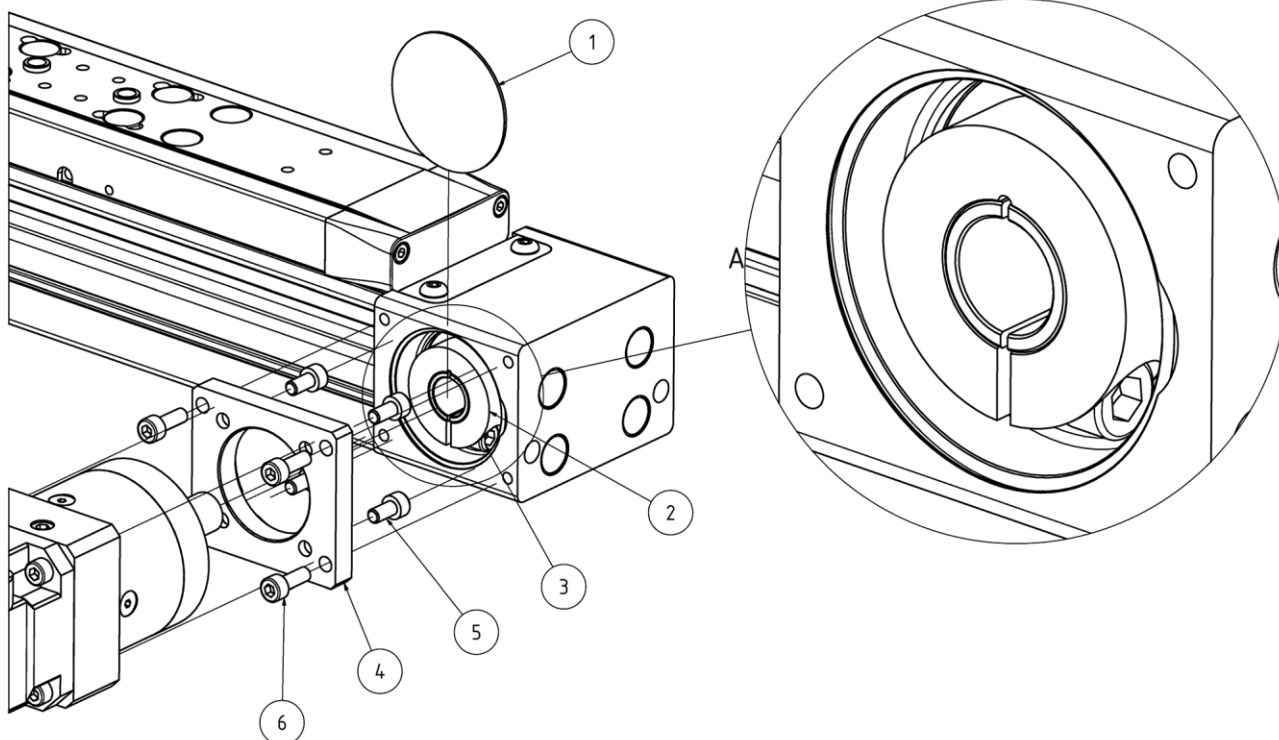

Figure 5: Assembly of drive
- ◆ Remove cover lid (see Figure 5, Pos. 1) on the desired side of one of the two deflection stations.
- ◆ Push clamp collar (please refer to Figure 5, Pos. 2) incl. clamping screw (please refer to Figure 5 Pos. 3) onto the pulley. The clamping surface between pulley and clamp collar must be free of oil and grease.
Clamp collar must abut to the pulley shoulder. The slot in the clamp collar must be aligned to the slot in the pulley (see Figure 5 detailed view A).
- ◆ Adjust clamp collar (please refer to Figure 5, Pos. 2) and pulley. Manually push carriage so that the clamping screw (please refer to Figure 5, Pos. 3) is accessible through the front mounting bore of the deflection station. For size HLR070, remove the corresponding plug from the return station so that the clamping screw (see Figure 5 Pos. 3) can be reached with the tool.
- ◆ Mount the HLR gear flange (see Figure 5, Pos. 4) to the gear output side using the gear screws (see Figure 5, Pos. 5). For screws please refer to Table 5.
- ◆ Screw in the screws (see Figure 5, Pos. 6) and place them lightly against the gear flange (do not tighten).
Tightening torque clamp collar (please refer to Figure 5, Pos. 3)
Tightening torque gear screws (please refer to Figure 5, Pos. 5)
Tightening torque drive flange (please refer to Figure 5, Pos. 6)